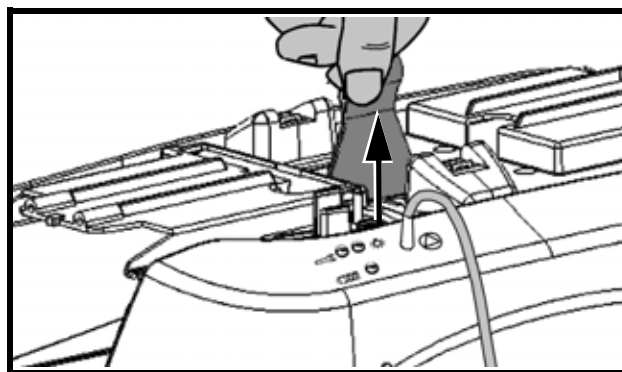

Fig. 30
- 2) Install the main shell. Pass the strap through the center opening of the main shell and the red cord through the opening on the side of the shell (see Fig. 30).